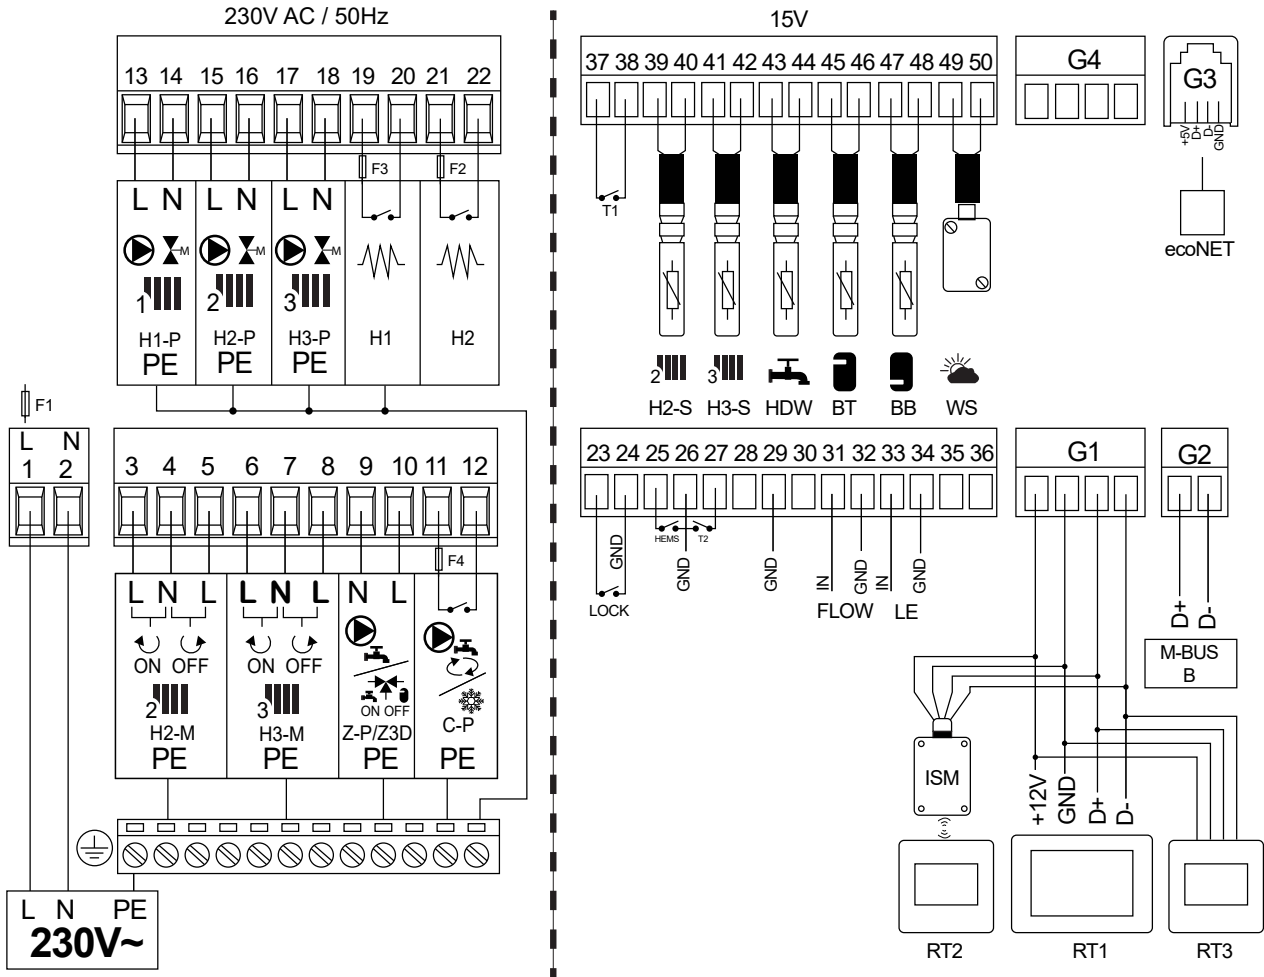

Figure 5-3: Wiring centre - Terminals
1. Remove the terminal cover from the wiring centre housing. Refer to Figure 5-3
2. Connect L & N wires of the supply to Terminals 1 & 2. Refer to Figure 5-3 for wiring centre terminal diagram.
The Grant Aerona Smart Controller integrated system configuration creator will aid with the setup of the space heating and DHW system within the software of the touchscreen display. The steps in the configuration creator should reflect the system you have designed and electrically connected to the wiring centre. You must only configure components you have connected (Refer to Section 5 Figure 5-3 for wiring centre layout).